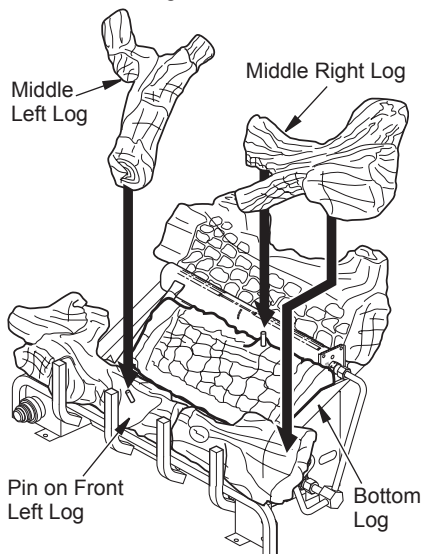

Figure 22 - Installing Log Sets
5. Place middle right log over front right and bottom logs as shown in Figure 22. Be sure hole in middle right log seats over pin in bottom log.
6. Place middle left log over front left and bottom logs as show in Figure 22. Be sure hole in middle left log seats over pin in front left log.